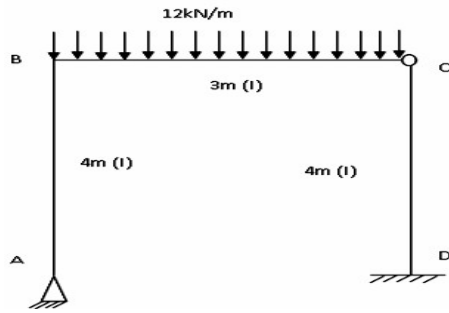

Fig. 4
3. Analyse the portal frame shown in fig.4 by moment distribution method. All members have the same flexural rigidity.